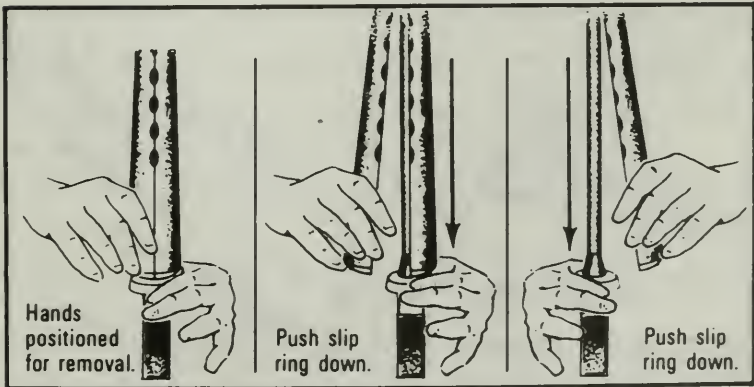

Figure 53. Removing the hand guards.
c. Remove the handguards (Figure 53).